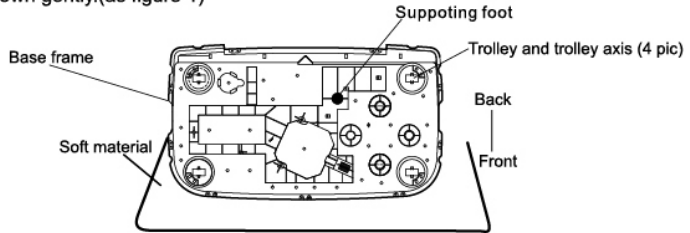

Figure 1
1. Firstly extend the soft material well, then make the front of the washing machine adown and put it down gently. (as figure 1)